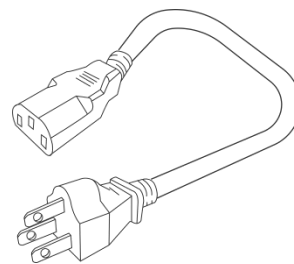

Figure 5-5
- controller power supply cable (Figure 5-5)